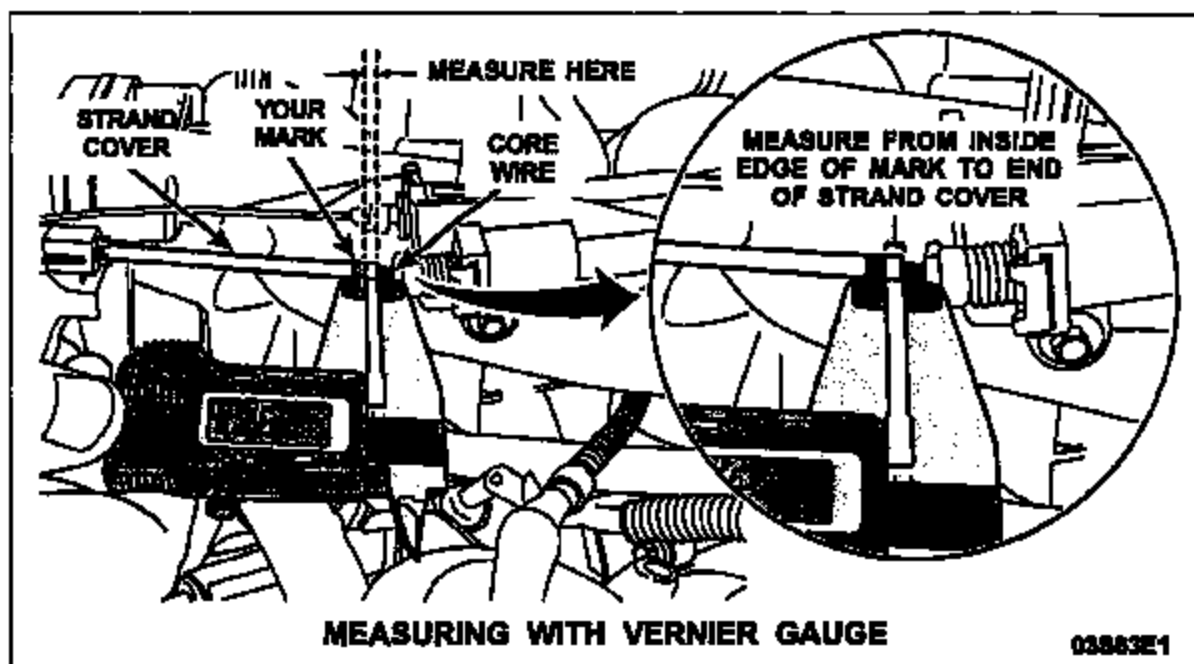

FIGURE 5
Pull the connector taut (toward the front of the vehicle). See Figure 5.
- B) If the strand cover is pulled out of the notched cable housing, using either the supplied 4 mm checking gauge or a Vernier caliper, measure the distance from the inside edge of the mark to the end of the exposed strand cover. Do not include the thickness of the mark when taking the measurement. See Figures 5 and 6.